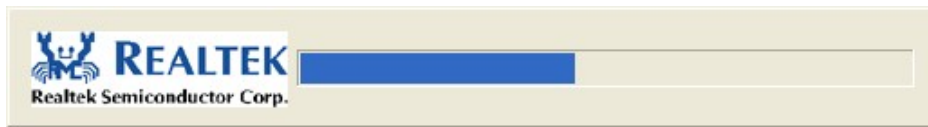

Figure 6-18: Audio Driver Installation
Step 7: The driver installation begins. See **Figure 6-18**.